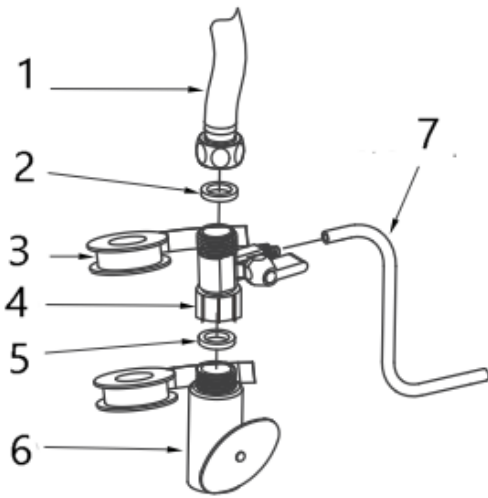

Fig. 1
3. Connect the diverter valve to the feed water valve and the hose (Fig. 1)